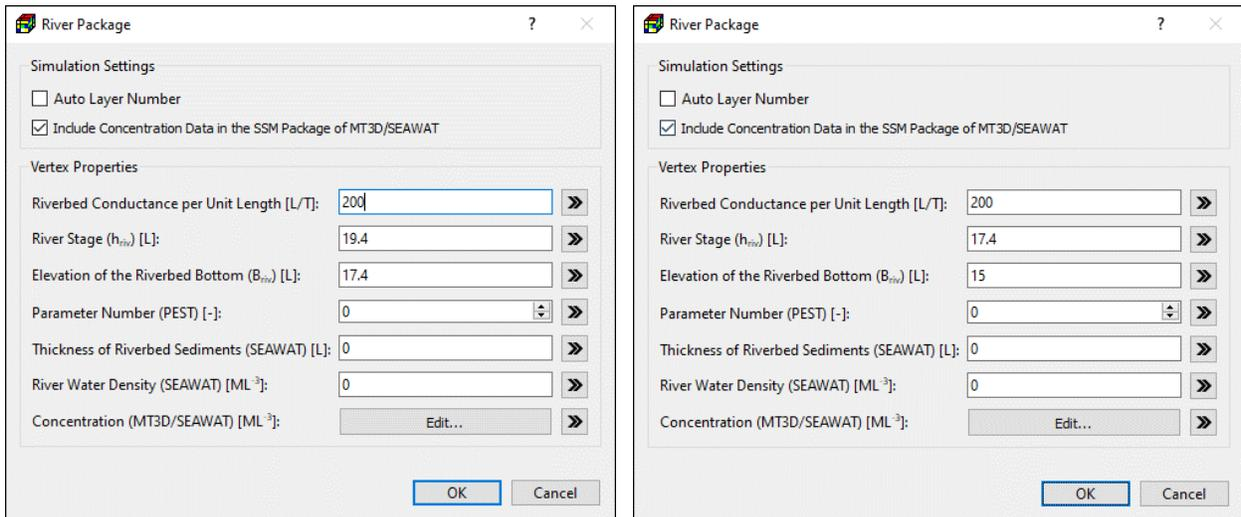

Figure 11. Parameters of upstream (left) and downstream vertex (right)
6. Right-click on the vertex of the polyline on the upstream side and select Edit Vertex Data to open the River Parameters dialog box, enter the values as shown in Figure 11 (left), and then click OK to close the dialog box.
7. Right-click on the vertex of the polyline on the downstream side and select Edit Vertex Data to open the River Parameters dialog box, enter the values as shown in Figure 11 (right), and then click OK to close the dialog box.